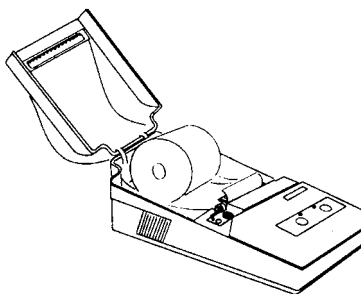

Figure 2. Printer with Cover Opened.
1. Open the cover as shown in Figure 2.
1. Open the cover on the printer as shown in Figure 2.